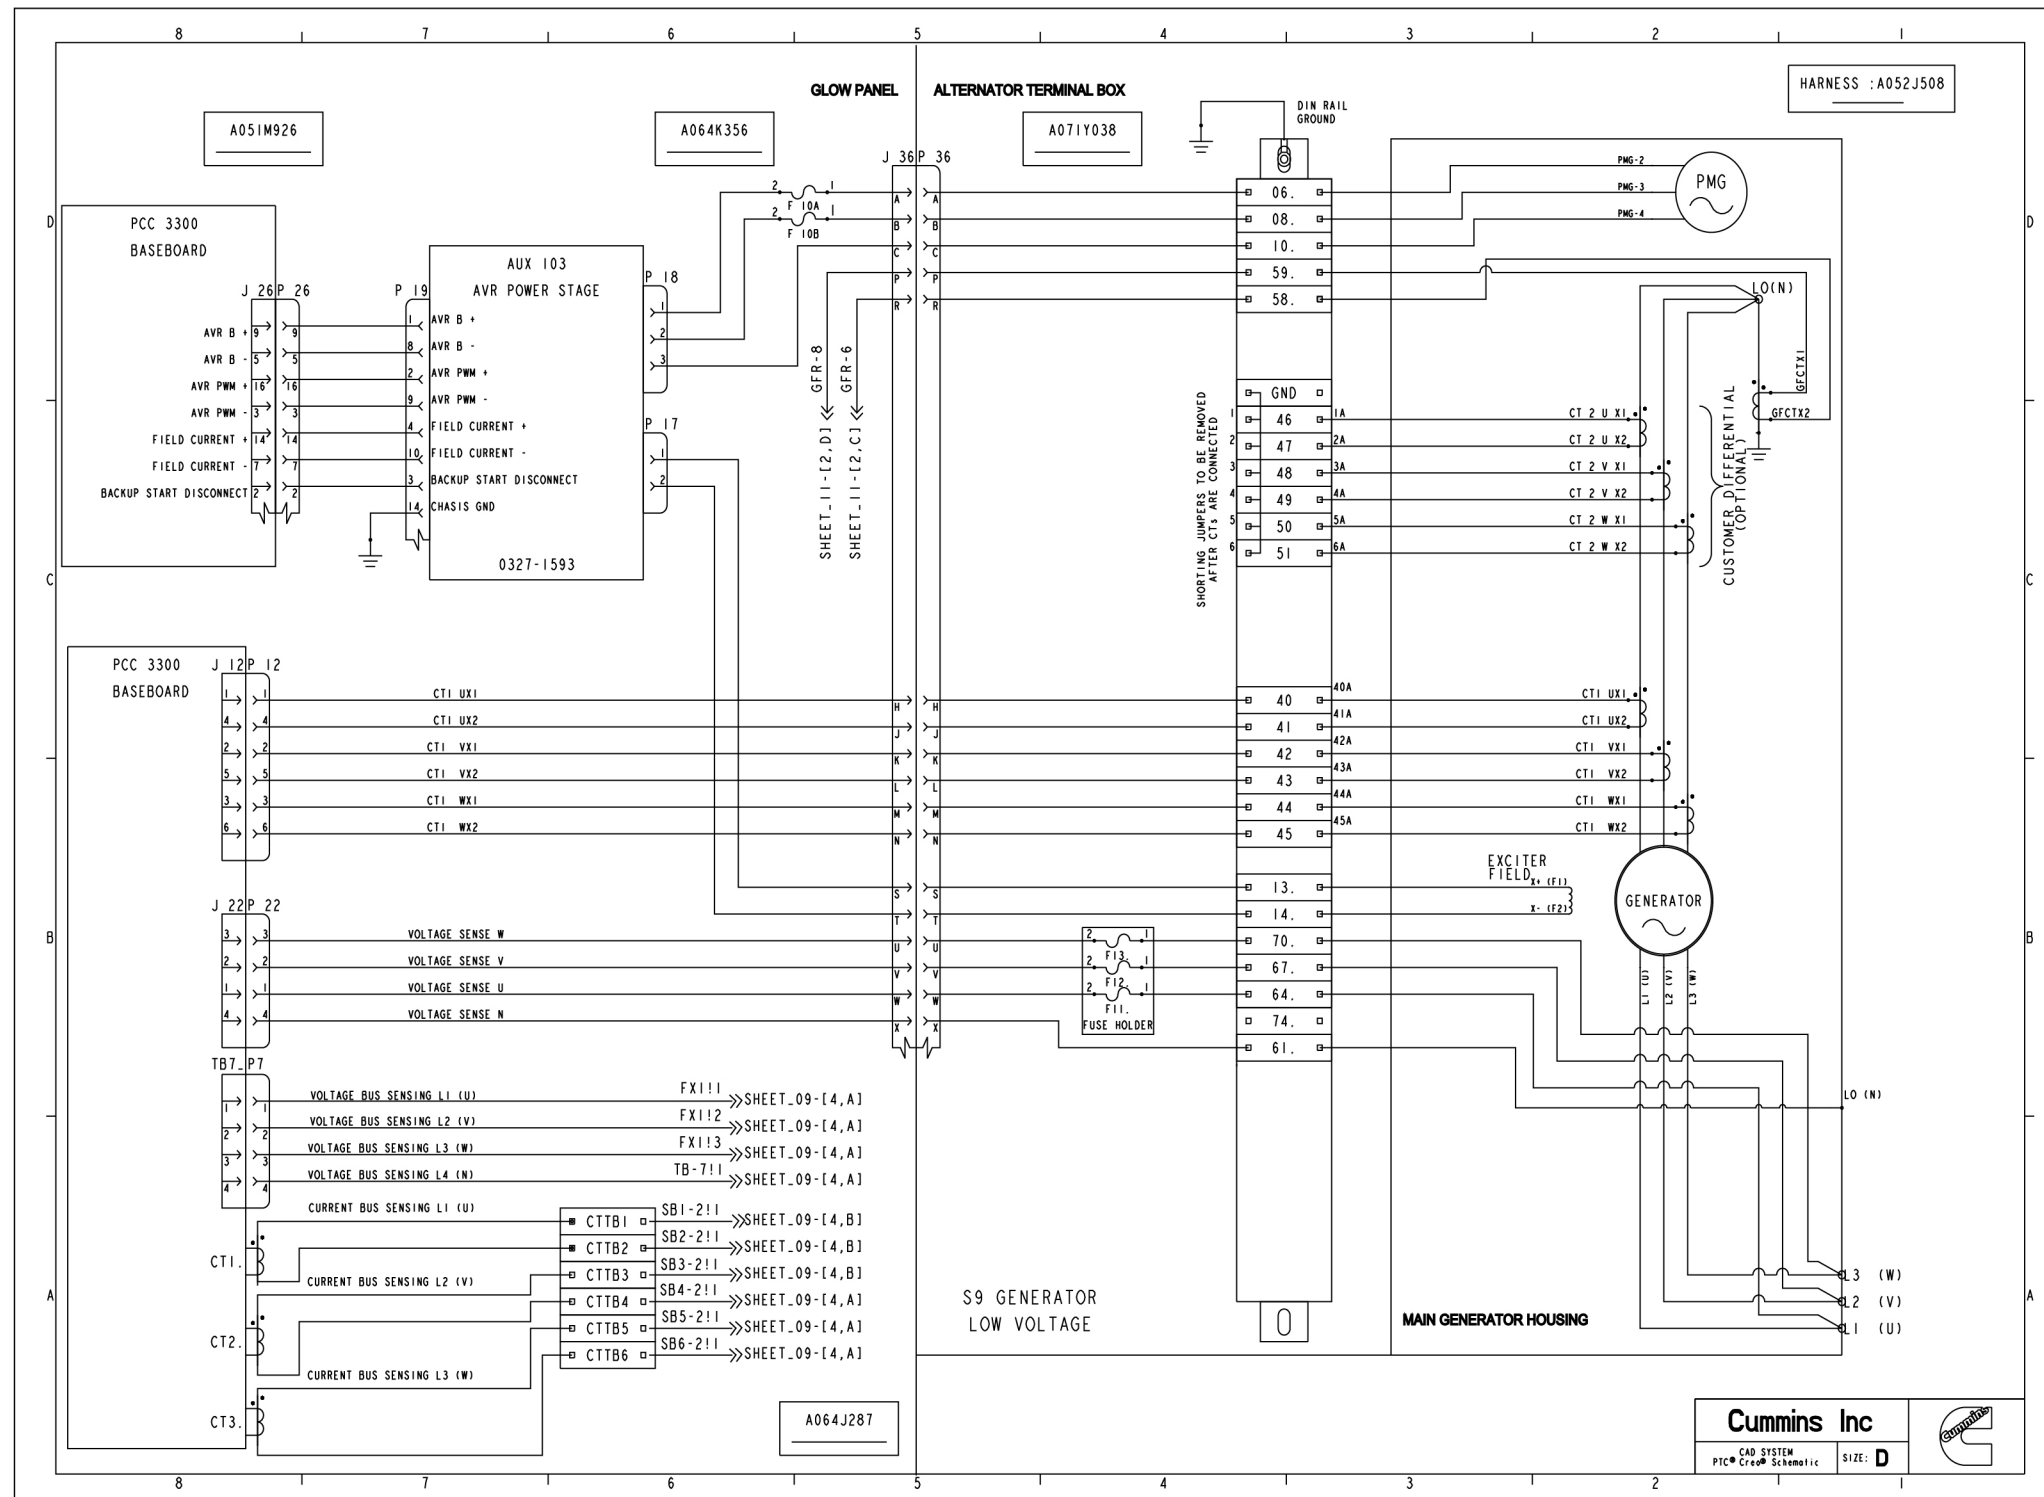

FIGURE 91. WIRING SCHEMATIC (SHEET 7)
- Figure 91. Wiring Schematic (Sheet 7) 395